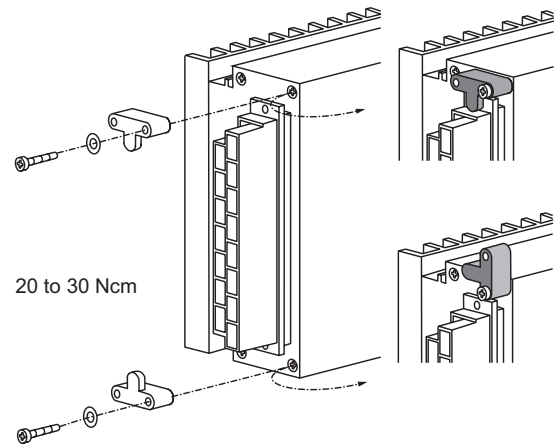

Fig. 46
- Connector retention brackets HZZ01216-G; see fig. 46